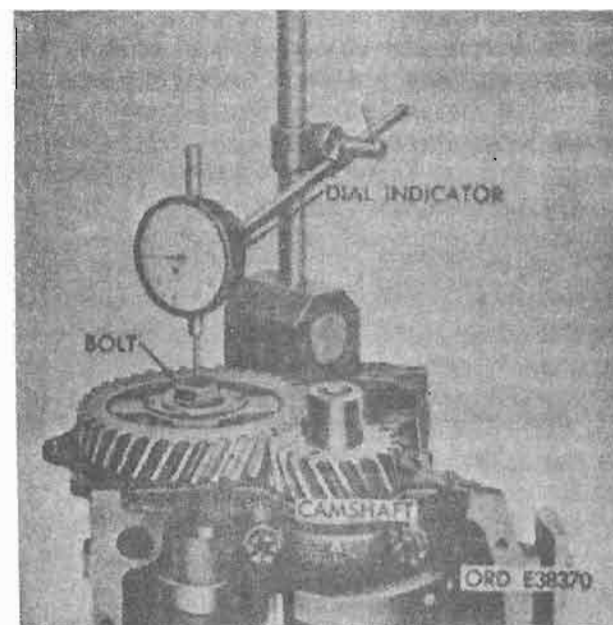

Figure 4-103. Measuring camshaft end play.
d. **Camshaft End Play** (fig. 4-103). Place dial indicator on cylinder block with indicator tip against end of camshaft retaining bolt. With suitable lever, pry camshaft to limit of play and record. Refer to repair standards (table 4-8).